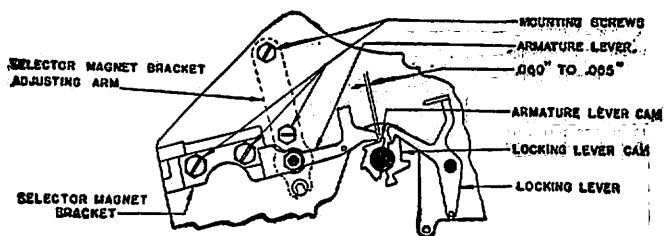

Fig. 8
4.18 **Selector magnet bracket adjusting arm:** Armature lever shall clear its cam by min. .060", max. .065" as in Fig. 8 when locking lever has just dropped off the long high part of its cam, the cam is held back against the locking lever, and the selector arm is held in its operated position by the locking lever.